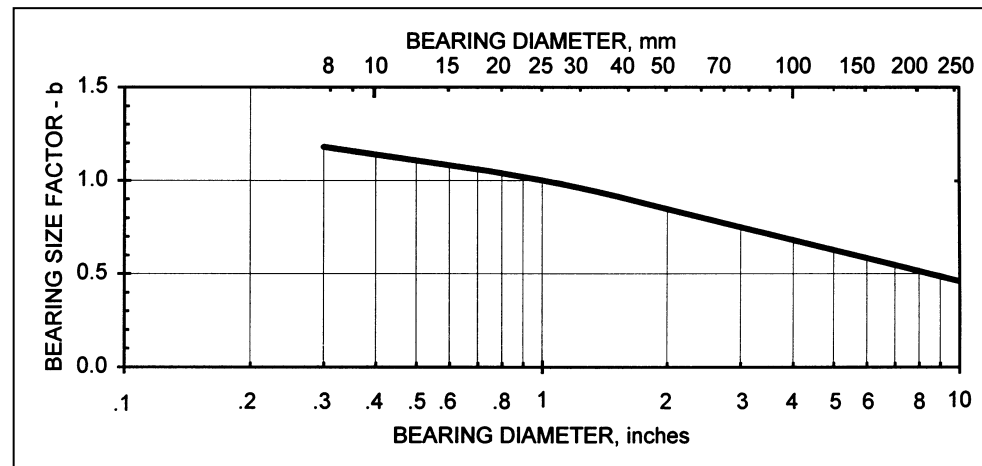

Figure 5-7. DX Bearing Size Factor – b
- $b$  = bearing size factor, Figure 5-7